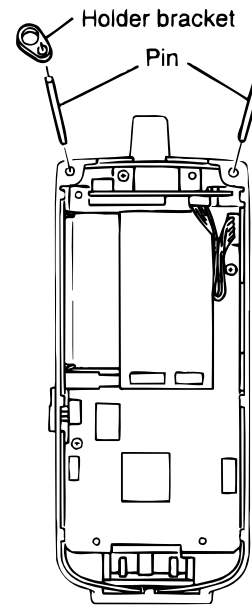

Fig. 4
■ Detaching the top case from the unit (Refer Fig.4 to 7)